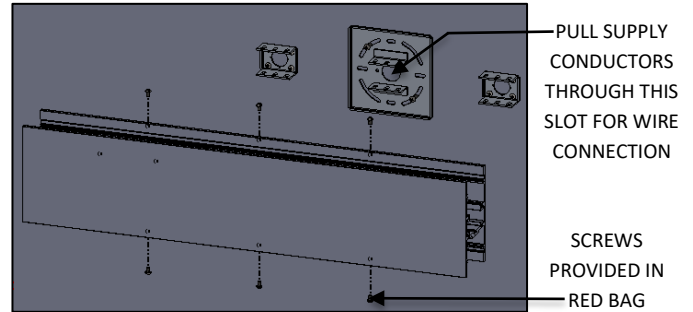

FIG. 11 – FIXTURE BODY INSTALLATION
7. Attach the fixture to J-BOX and ANCHOR BRACKETS, secure with the SCREWS provided as shown in FIG.11[be careful not to over-tighten and strip the threads].